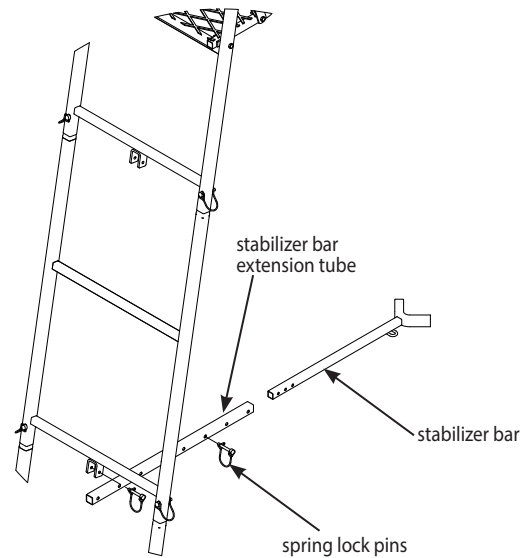

Figure 4
7. a. Attach the stabilizer bar extension tube (1ML23) to the third ladder section mounting bracket using (1) provided spring lock pin. **SEE FIGURE 4.**
b. Slide the stabilizer bar (L29) into the extension tube and attach the two pieces together using (1) provided spring lock pin. Spring lock pin must go through both the extension tube and the stabilizer bar at appropriate hole to achieve desired distance from tree. Adjustment in length may be needed when ladder is uprighted later in instructions. **SEE FIGURE 4.**